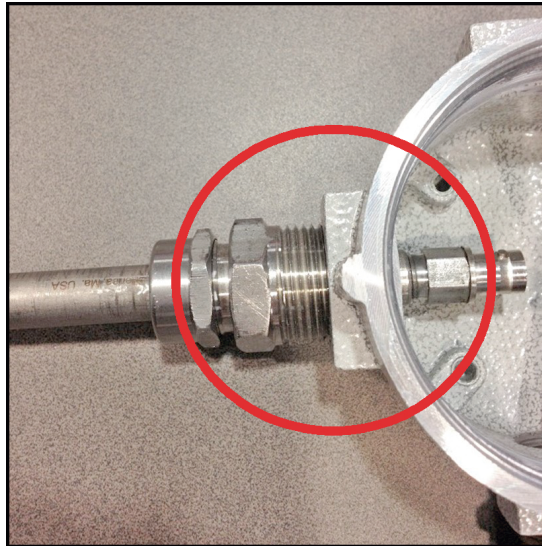

Figure 16: Torquing the NPT Reducer
2. Torque the fitting into one of the 3/4" NPT ports of the junction box with at least 5 threads engaged. After the fitting is torqued into place, ensure that the BNC head of the transducer extends slightly past the ground screw bosses, as shown in Figure 16 below:
3. If the BNC head extends too far into the junction box, it will make the assembly more difficult to install by reducing the amount of area needed to properly store the excess cable. If the BNC head is not positioned approximately where it is pictured in Figure 16 above, loosen the compression fitting and adjust the transducer. Then, re-tighten the compression fitting.